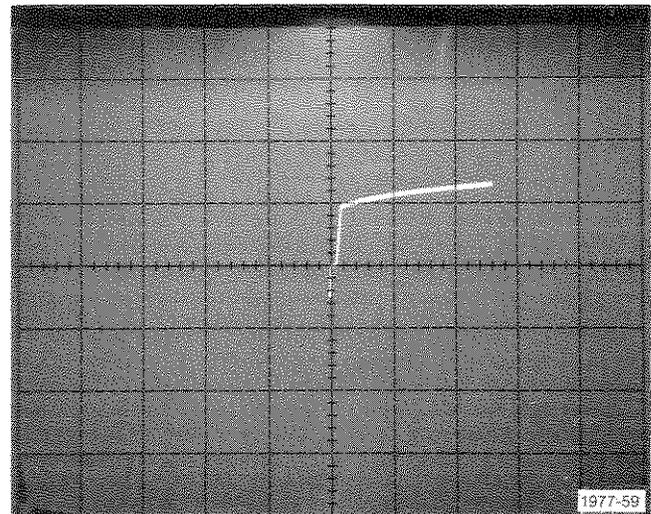

Fig. F-7. Display of MC3302P supply current.
a. Check that the displayed Supply Current is 1.5 mA (+3 divisions or less above the display zero reference, see Fig. F-7).